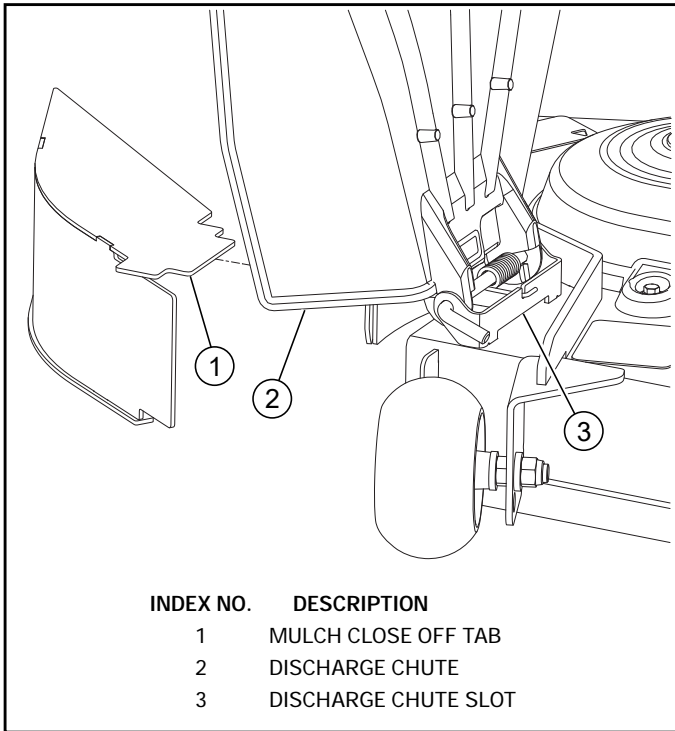
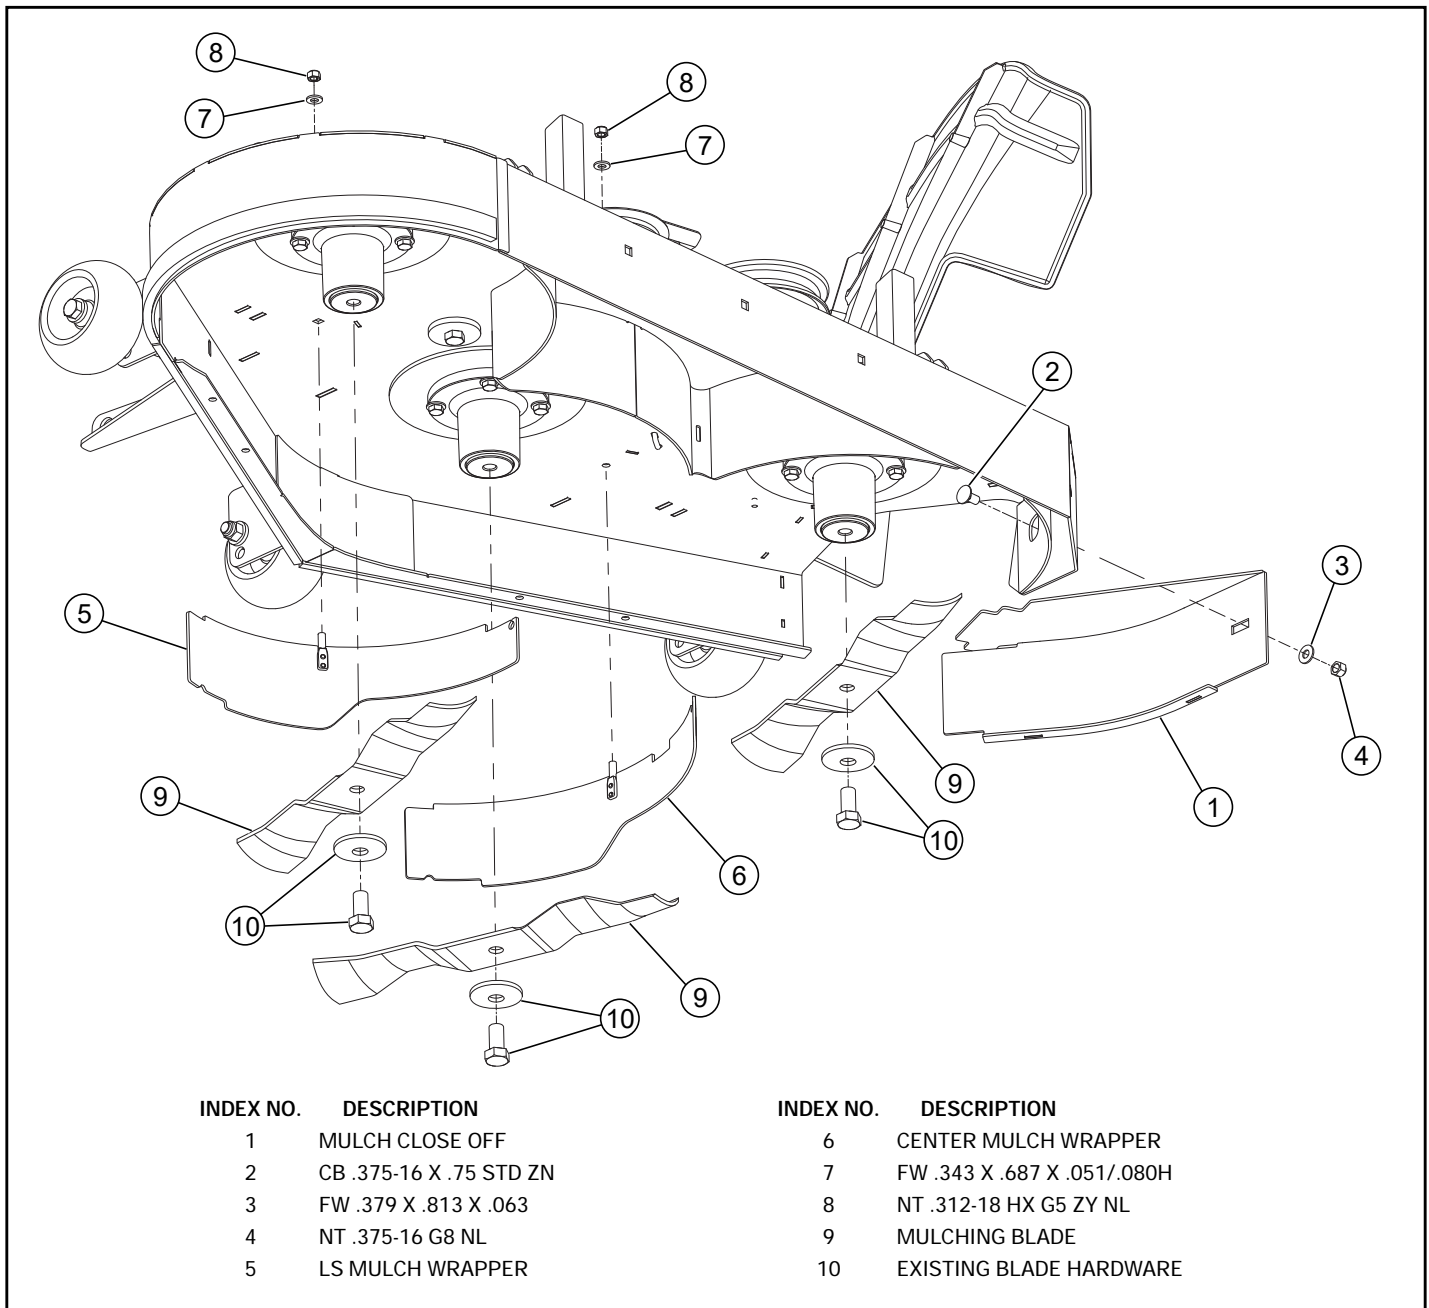

FIG. 3
FIG. 4
5. Install the LS mulch wrapper and the center mulch wrapper as shown. Fig. 4
6. Raise the deck discharge chute up. Insert the tab of the mulch close off into the slot of the discharge chute bracket. Secure the mulch close off with the hardware provided. Fig. 3 & Fig. 4
7. Install the mulching blades on the spindles using the existing blade hardware. Torque bolts on spindles to 118 ft-lbs (160 N•m) when installing the blades. Fig. 4